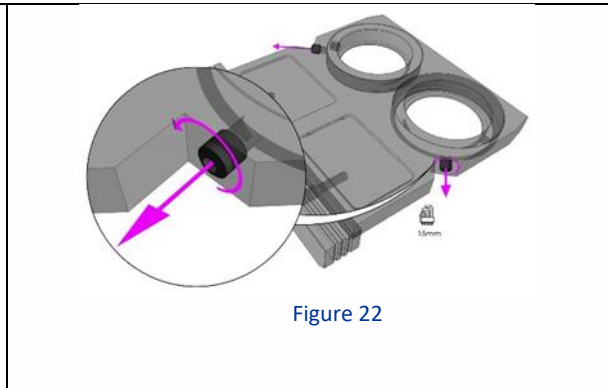

Figure 22
2. Loosen the two filter retaining screws on the excitation filter holder using a 1.5 mm hex key (Figure 22). The retaining screws should not be removed.